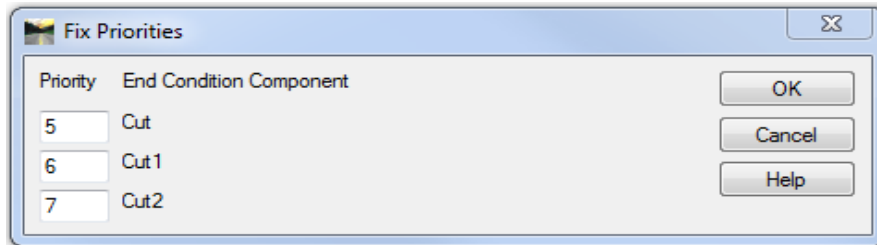

Figure 6-25 InRoads Fix Priorities Component
- G. If there is a conflict with the priorities or the order of the priorities need to be changed, it can be modified in the **Fix Priorities** dialog box Figure 6-25. For this lab, the priority of the end conditions does not need to be changed. Therefore, **save** the data. For Facilities **close FA.itl** and **open** the **HWY.itl** file.